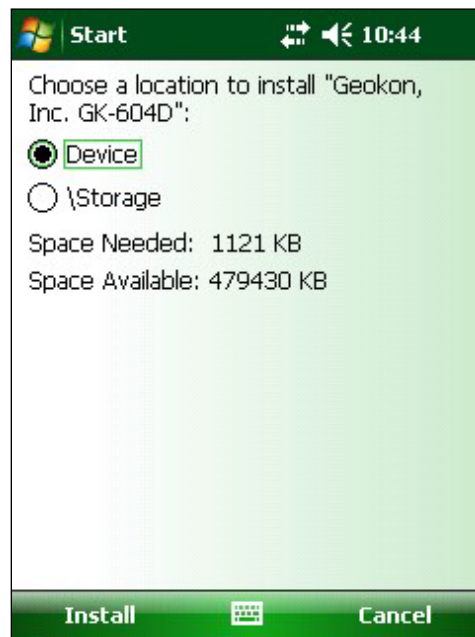

Figure 25 - GK-604D Install Screen
- 5) If there is a storage card installed in the HDD then the user will be prompted to choose the location for the installation (Figure 25). It is recommended that “Device” be selected then tap “Install” with the stylus to initiate the install process.